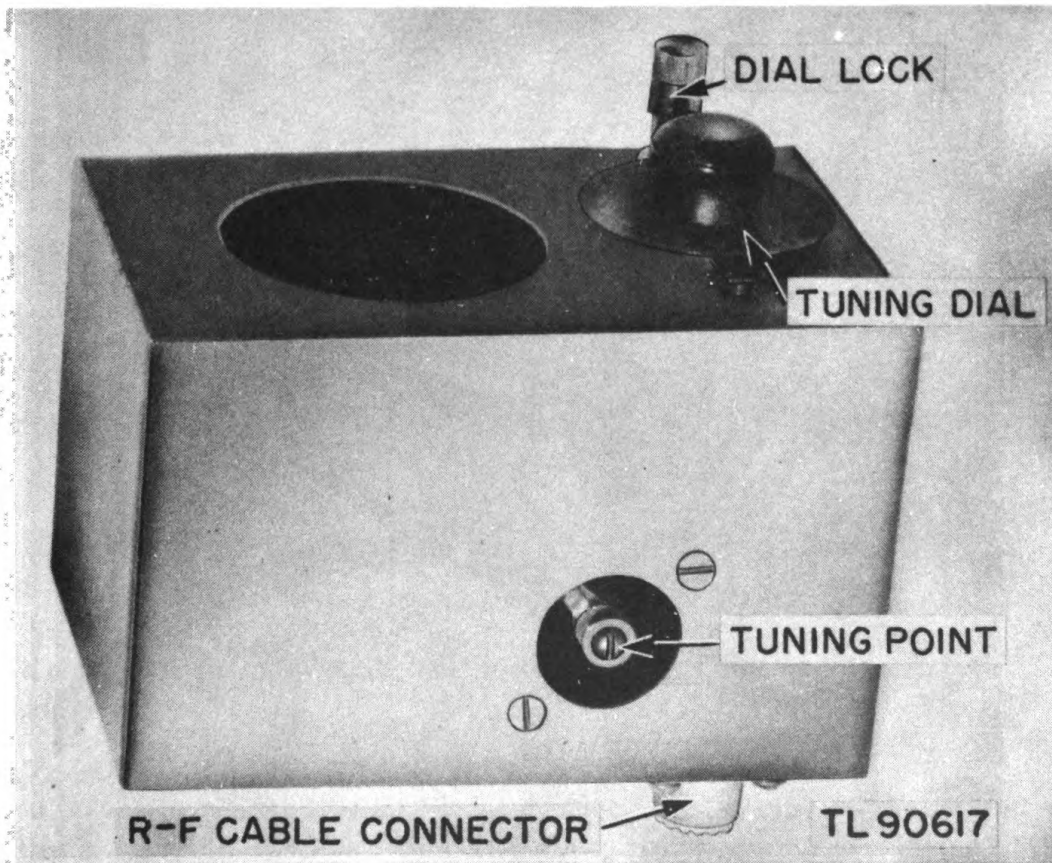

Figure 14. Resonance Tuner BC-1305.
14. RESONANCE TUNER BC-1305. The resonance tuner (fig. 14), is a $\frac{1}{16}$ -gauge, olive drab finish, cold-rolled steel box housing a stationary coil of two windings and a variable capacitor. One side of the box is removable
r-f current meter on the transmitter or a neon bulb, with glass portion held close to the neon glow tuning point (fig. 14) on the resonance tuner, will serve to indicate resonance. Adjust the tank circuit capacitor for greater r-f output and readjust the antenna tuner capacitor. Repeat these adjustments until maximum output is reached. The tank circuit capacitor should not be touched again in tuning the other channels.